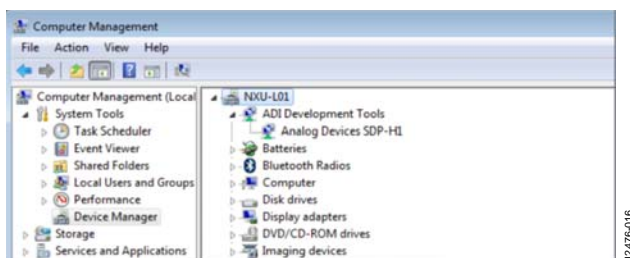

Figure 16. Device Manager
- If the board does not appear to be functioning, ensure that the ADC evaluation board is connected to the EVAL-SDP-CH1Z board and that the SDP board is recognized in the **Device Manager**, as shown in Figure 16.
- If an error occurs, check that the evaluation board and the EVAL-SDP-CH1Z board are connected together so that the EVAL-SDP-CH1Z is recognized in the **Device Manager**, as shown in Figure 16.